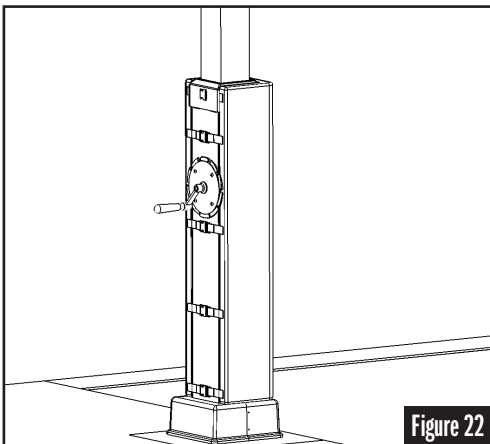
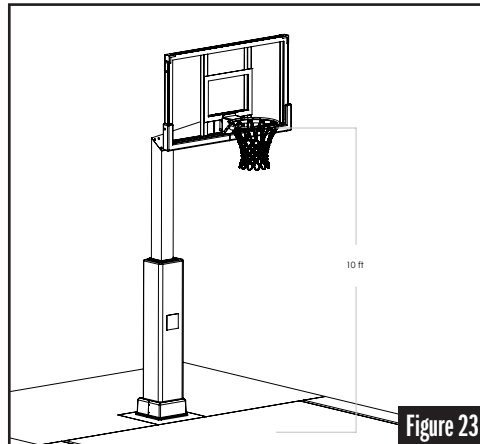

Figure 22
Figure 23
STEP 13: Secure Crank Handle (Part J) with screw on the backside of the hoop. Replace the Base Pole Pad. See Figure 22. Raise the hoop to 10' with the crank handle. Check the height using a measuring tape. See Figure 23. Ensure crank handle locks into place to prevent unintended movement.